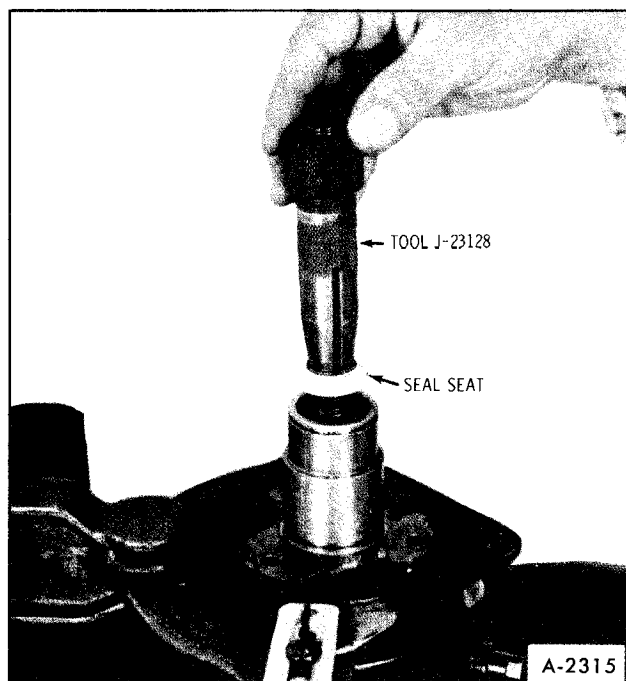

Figure 45—Removing Seal Seat
3. Using tool (J-23128), grasp the flange on the seal seat and lift out the seal seat (figure 45).